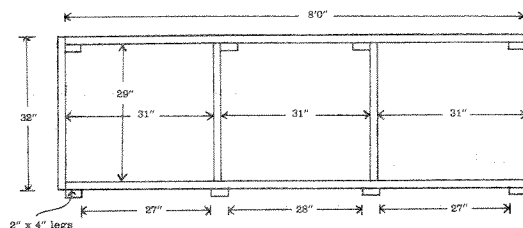
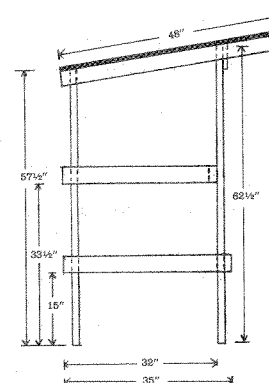

Figure 4: Overhead view of hutch showing floor and legs.
Figure 5: Side view of hutch.
- 2) The front and back legs should be cut from the 10' x 2" x 4" (3 meter x 5 cm x 10 cm) lumber, obtaining one front and one back leg from each 10' (3 m) of length. Each should be notched according to where the roof beams will connect (Figure 4), then the floor wire cut and the back legs inserted. Front legs are nailed directly onto the front of the floor (Figure 4). The legs then are secured by the horizontal supports nailed 15" (38 cm) below the floor (Figure 5).
- 3) Two of the 8' x 2" x 4" pieces (2.4 m x 5 cm x 10 cm) pieces should be cut in half for the roof beams, then the front ends can be angled (Figure 5) to prevent a bruised head later. Beams then should be placed in the notches that have been cut in each of the legs and nailed into place.